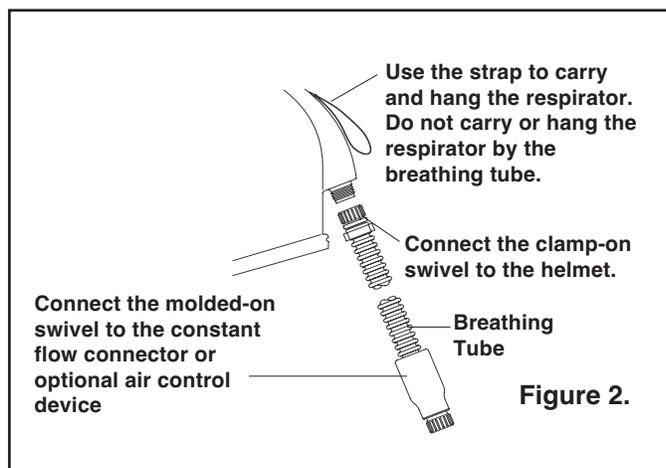

Figure 2.
3.4.1 Attach the clamped-on end of the breathing tube to the threaded air inlet fitting at the back of the helmet as shown in Figure 2. Do not over-tighten; hand-tight is sufficient.